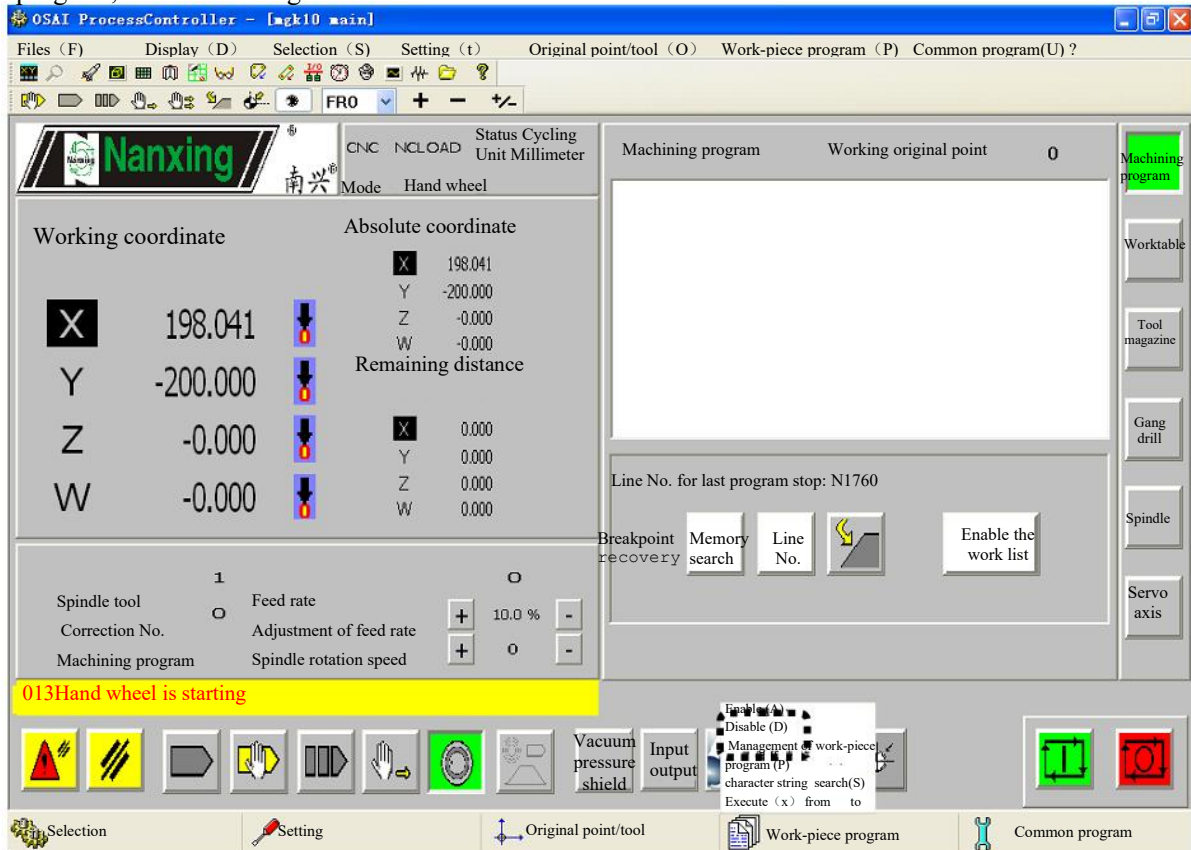

Fig. 6.17
7. If there has been a workpiece program already, you must first "Disable" and then call the new workpiece program, as shown in Fig.6.17.